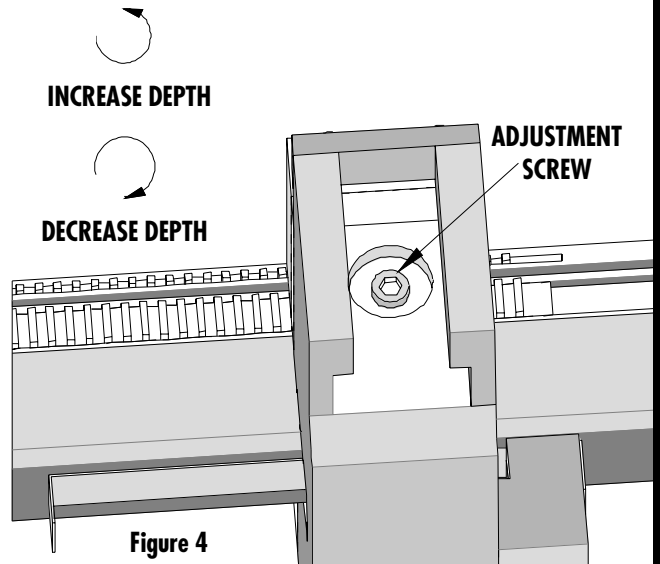

Figure 4
2. Locate the adjusting screw on the back of the module. See Figure 4.
3. Turn this screw counterclockwise (CCW) to increase the depth or clockwise (CW) to decrease the insertion depth.